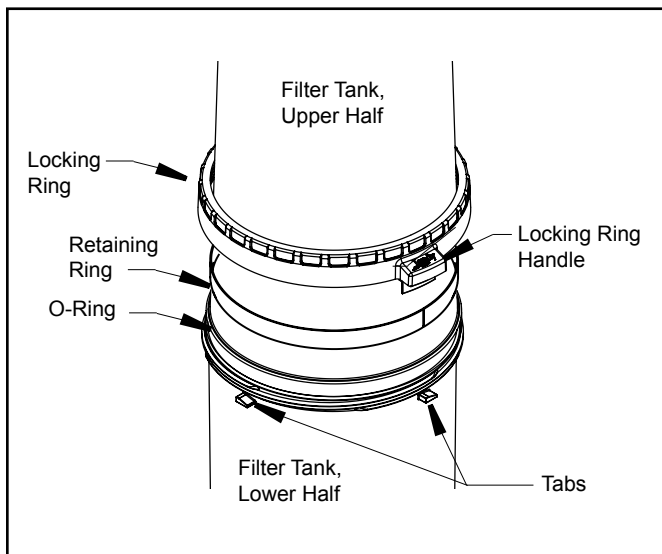

Figure 5. Locking Ring
1. Be certain the o-ring is in position in the lower tank half. Press the filter lid over the lower half until seated. Lubricating the o-ring with a silicone based lubricant will help with installation (see Fig. 5).